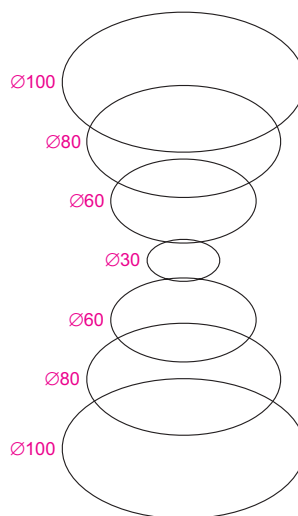

Fig. 12.41 Example **Loft** – the cross sections
1. Construct the seven circles shown in **Fig. 12.41** at vertical distances of **30** units apart.